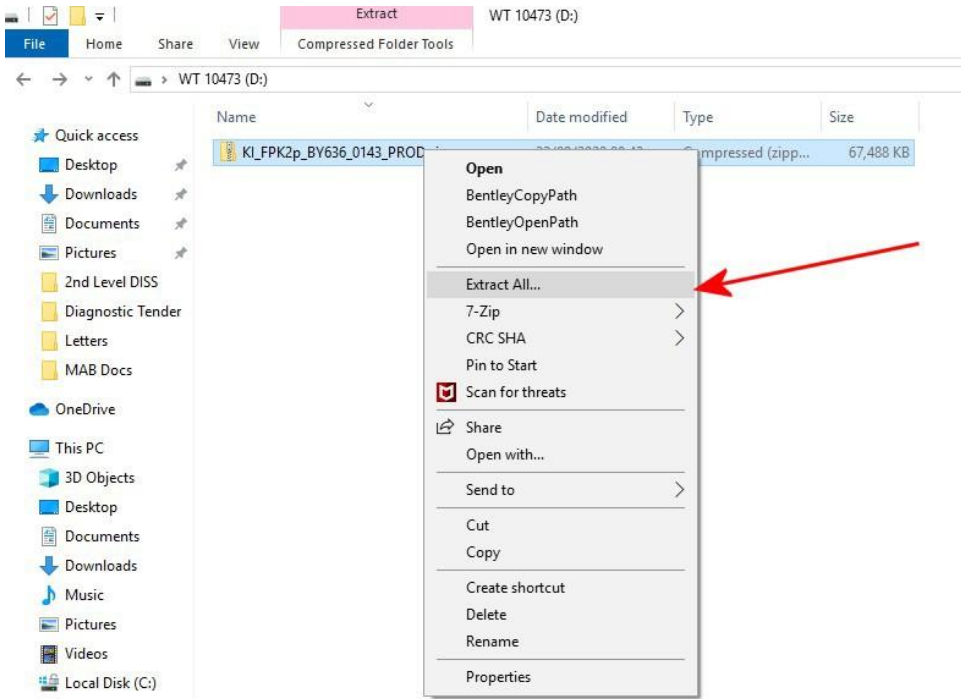

Figure 3
3) Extract the ZIP file (Figure 3)